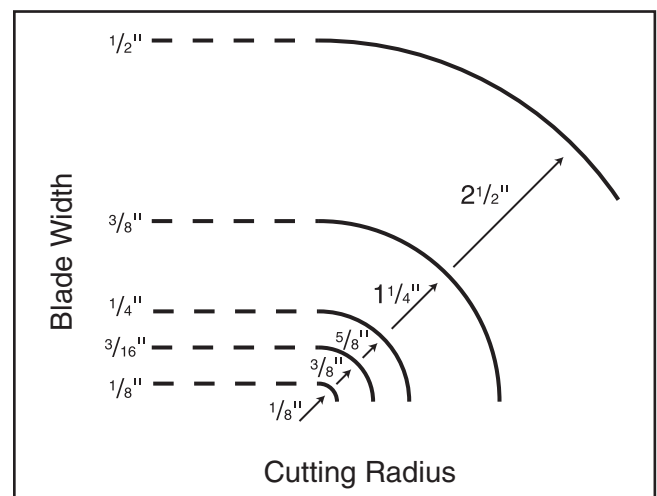

Figure 56. Blade width radii.
- **Curve Cutting:** Use the chart in **Figure 56** to determine the correct blade for curve cutting. Determine the smallest radius curve that will be cut on your workpiece and use the corresponding blade width.